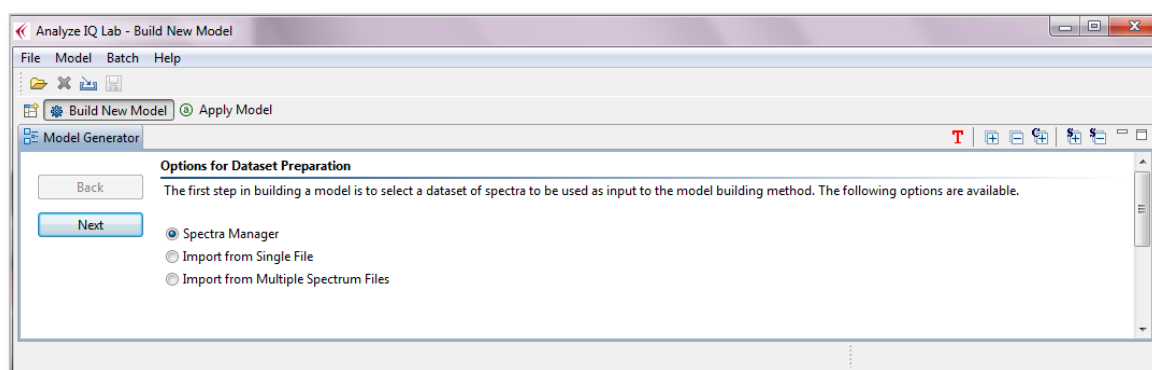

Figure 75: Building a quantification model: switch to Build New Model page
1. Switch to the *Build New Model* page (see Figure 75)